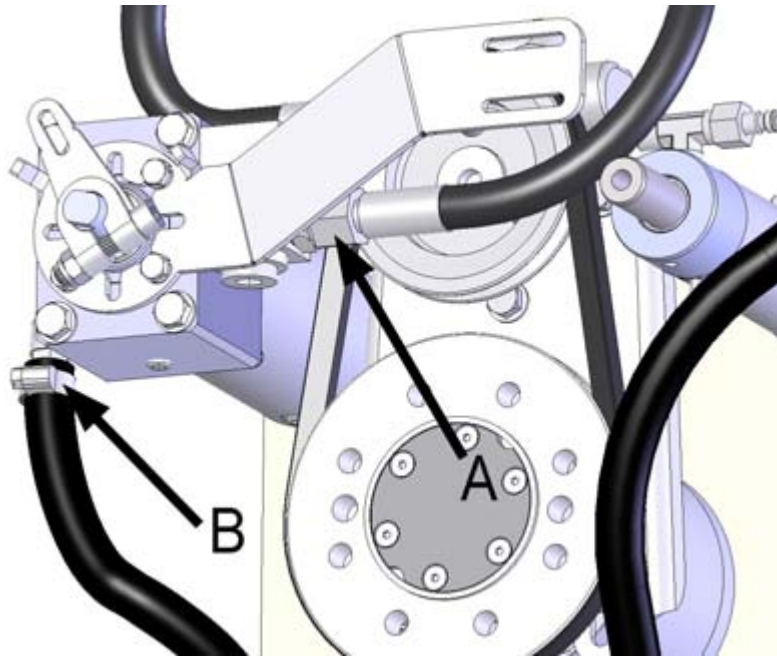

Figure 54. Removing the hoses
2. Remove the cylinder pressure hose (figure 54, point A) and return hose (figure 54, point B) from the valve and drain the oil into a container.